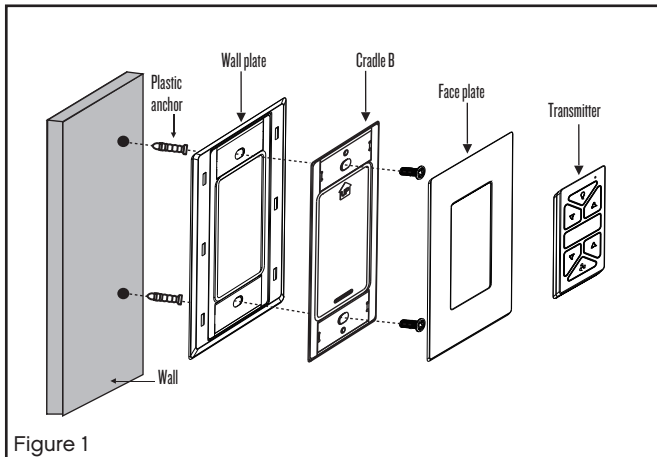

Figure 1
- 1 Remove hanger ball from downrod by loosening set screw in the side of the hanger ball. Slide hanger ball down and remove cross pin. (Fig. 1)
- 1 Insert the receiver into the ceiling mounting bracket with the flat side of the receiver facing the ceiling. (Fig. 1)
- 1 Select a desired location. Use the wall plate to mark the location of the mounting holes. Plastic wall anchors or mounting screws are needed for this application. (Fig. 1)
Remove the panel from the transmitter and then install one 2032 battery (included). You need to use a coin to open or close the battery cover. To prevent damage to transmitter, remove the battery if not use for long periods of time (Fig. 1)